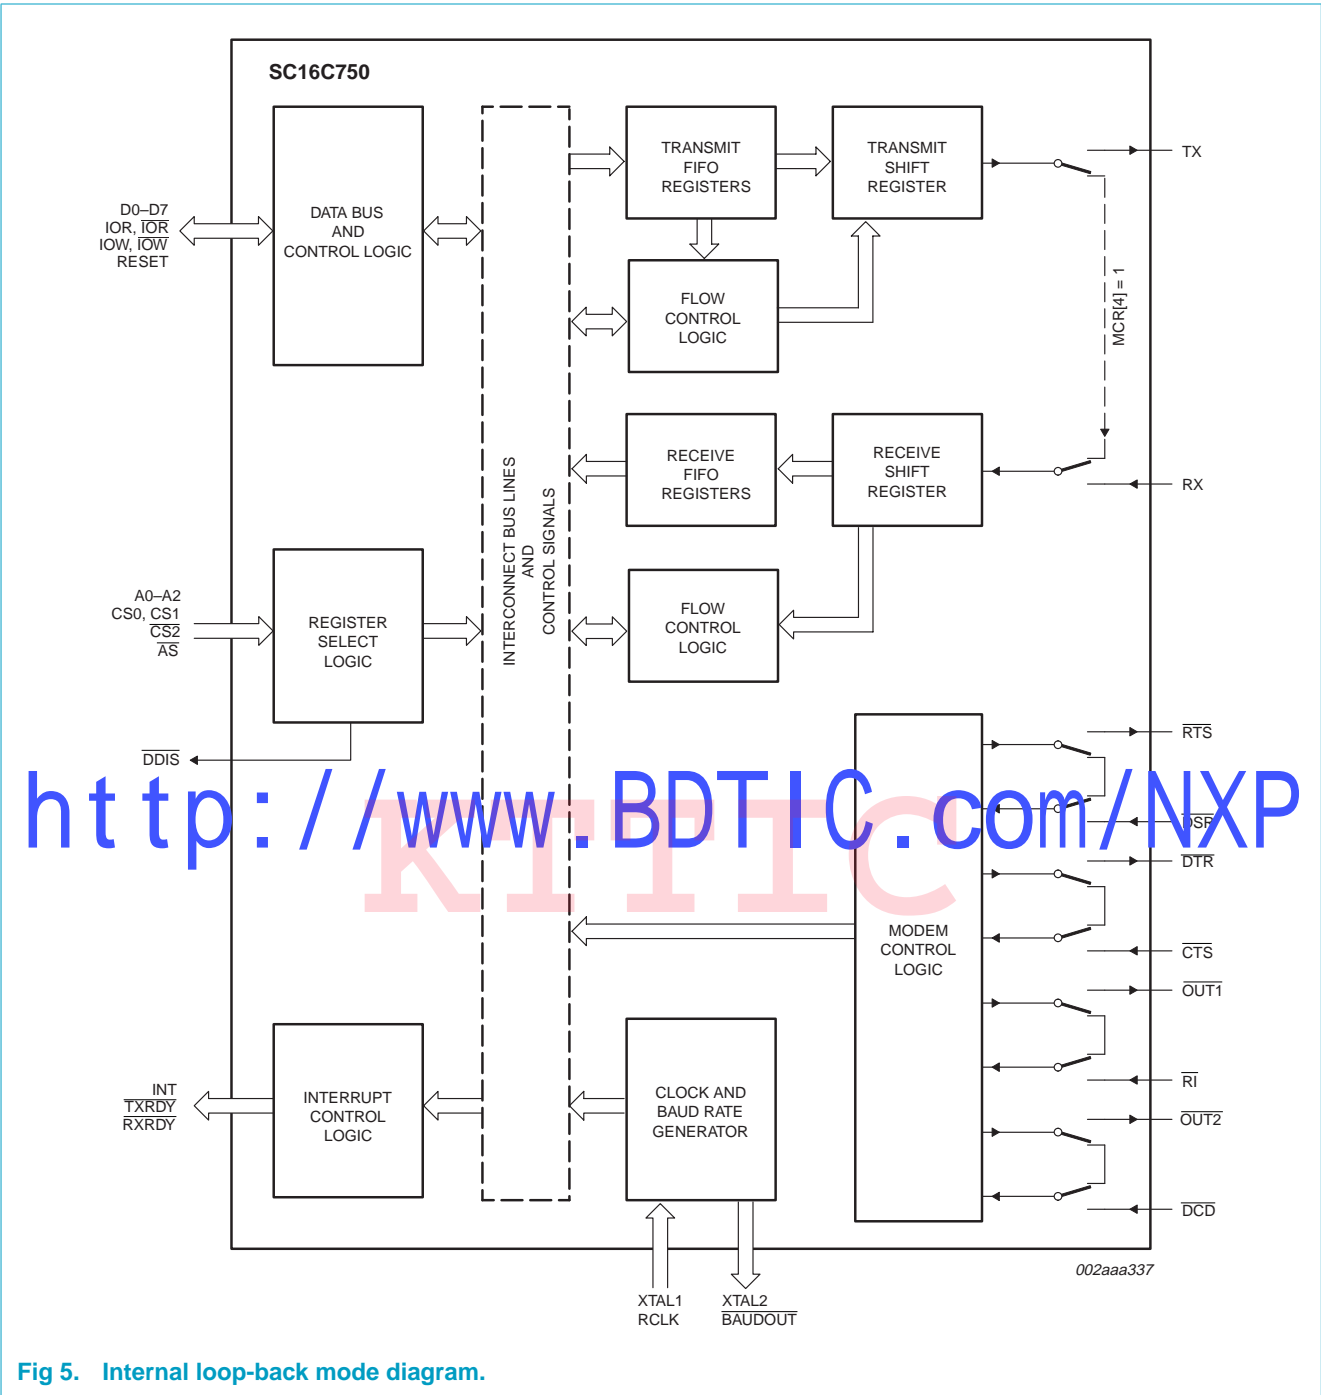

Fig 5. Internal loop-back mode diagram.
The internal loop-back capability allows on-board diagnostics. In the loop-back mode, the normal modem interface pins are disconnected and reconfigured for loop-back internally. MCR[0-3] register bits are used for controlling loop-back diagnostic testing. In the loop-back mode, OUT1 and OUT2 in the MCR register (bits 2-3) control the modem $\overline{\text{RI}}$ and $\overline{\text{DCD}}$ inputs, respectively. MCR signals $\overline{\text{DTR}}$ and $\overline{\text{RTS}}$ (bits 0-1) are used to control the modem CTS and $\overline{\text{DSR}}$ inputs, respectively. The transmitter output (TX) and the receiver input (RX) are disconnected from their associated interface pins, and instead are connected together internally (see Figure 5). The CTS, $\overline{\text{DSR}}$, $\overline{\text{DCD}}$, and $\overline{\text{RI}}$ are disconnected from their normal modem control input pins, and instead are connected internally to $\overline{\text{DTR}}$, $\overline{\text{RTS}}$, OUT1 and OUT2. Loop-back test data is entered into the transmit holding register via the user data bus interface, D0-D7. The transmit UART serializes the data and passes the serial data to the receive UART via the internal loop-back connection. The receive UART converts the serial data back into parallel data that is then made available at the user data interface D0-D7. The user optionally compares the received data to the initial transmitted data for verifying error-free operation of the UART TX/RX circuits.